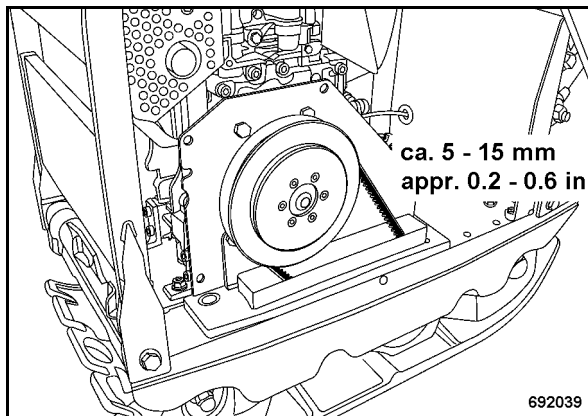
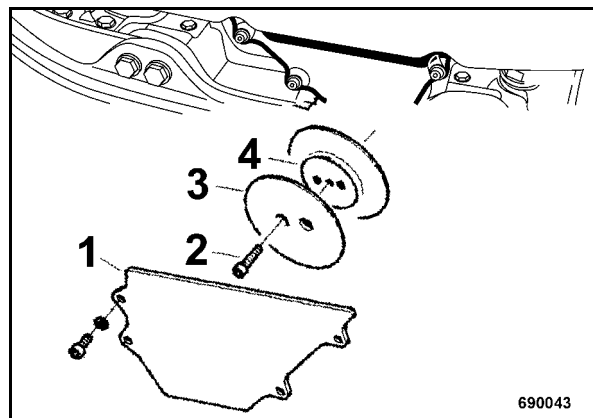

Fig. 47
Fig. 48
- Remove the V-belt guard (Fig. 47).
- Disassemble the safety cover (1) (Fig. 48).
- Loosen screw (2).
- Remove the front disc (3) from the centrifugal clutch.
- Attach the front disc (3).
- Tighten the screws (2).
- Refit the safety cover (1).
- Assemble the top V-belt guard (Fig. 47).